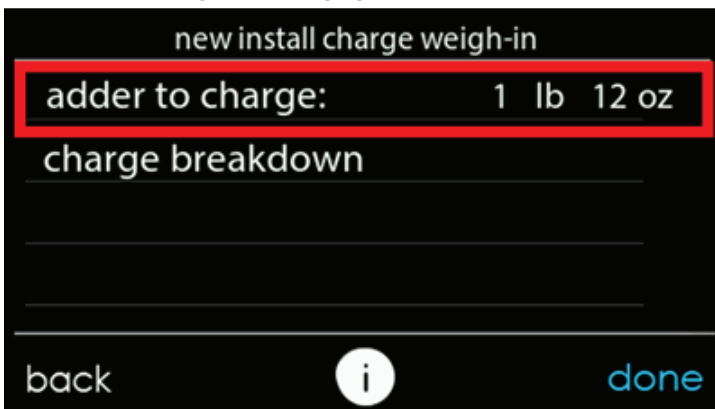
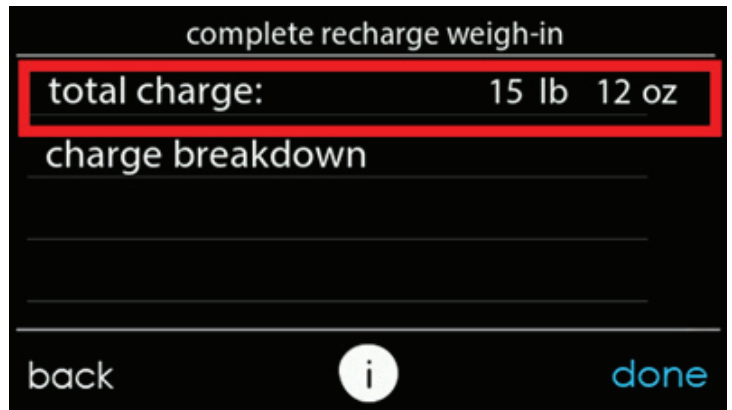

Fig. 20 – Additional Required Charge for New Installation
Fig. 21 – Total Charge Required for a Complete Charge
13. The "new install charge weigh-in" screen will show the additional charge that needs to be added to the system to account for the ID coil and line set (see Fig. 20).
14. If this is a complete re-charge then select "complete recharge" in the "charging mode selection" screen. This screen will show the total amount of charge to add for the indoor coil, line set, and outdoor unit (see Fig. 21). The "charge breakdown" screen shows the charge required for each component of the system.
In heating mode, the required charging method is by weigh-in. On new installation or complete recharge, refer to the refrigerant charging screen in the user interface (UI) to obtain the required charge adjustment and/or total charge required (see Fig. 20 & Fig. 21). Use the UI and Heating Check Charts (located on the inside of the control box cover) to check system operation during HEATING mode. The indoor conditions must be between 60°F (15.6°C) and 80°F (26.7°C) to check the charge. The outdoor coil must be dry and ice/frost free. Do not check for pressure agreement if the outdoor has rain, mist or snow present.